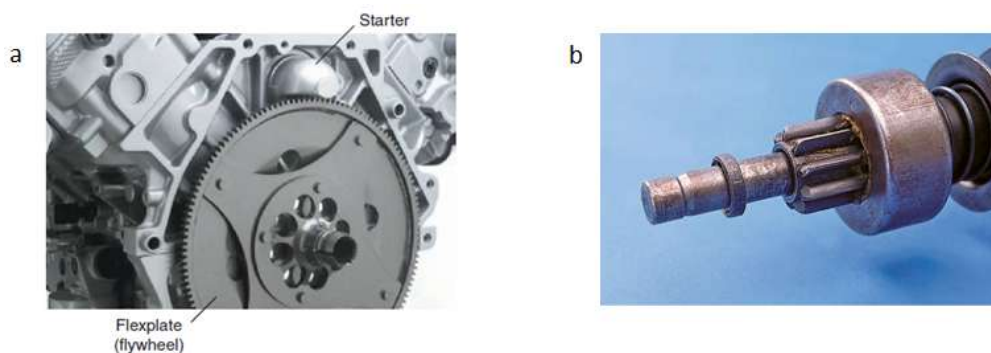

Figure 1.2-20a) Starter drive pinion gear is used to turn the engine's flywheel, **b)** the pinion gear teeth are tapered to allow for smooth engagement.
- **STARTER DRIVES** - The starter drive is the device that couples the armature with the flywheel. A pinion gear at one end of the armature meshes with the teeth on the outside of the flywheel (**Figure 1.2-20a**). The spinning armature then turns the flywheel. To prevent damage to the pinion gear or the ring gear on the flywheel, the pinion must mesh with the ring gear before the armature begins to spin. To help ensure smooth engagement, the end of the pinion gear is tapered (**Figure 1.2-20b**). To disengage the pinion from the flywheel, the pinion is mounted to the armature via an overrunning clutch.